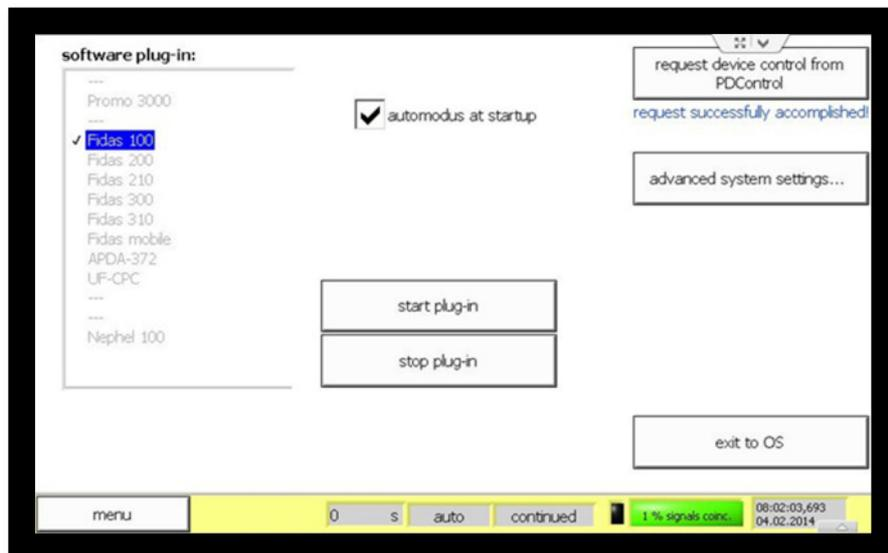

Figure 17: System menu
You are now in the “System” screen (Figure 17). Continue by clicking the “advanced system settings” button:
- You are now in the “system” screen (see Figure 17). Continue by clicking “exit to OS” to obtain access to the Windows operating system.